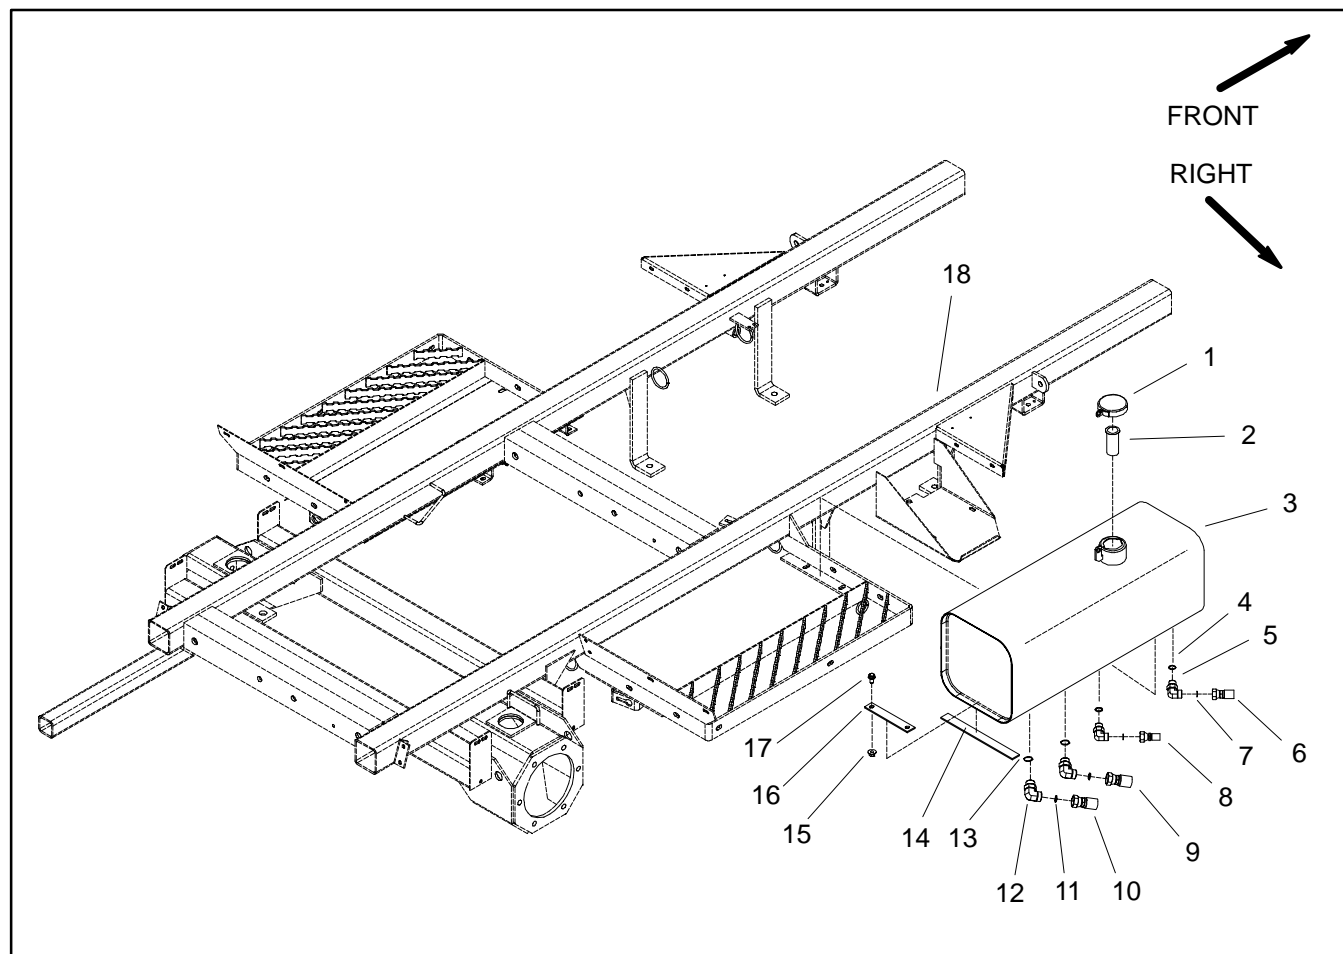

Figure 54
Removal (Fig. 54)
5. Remove hydraulic reservoir from machine using Figure 54 as a guide.
Installation (Fig. 54)
1. Install hydraulic reservoir to machine using Figure 54 as a guide.